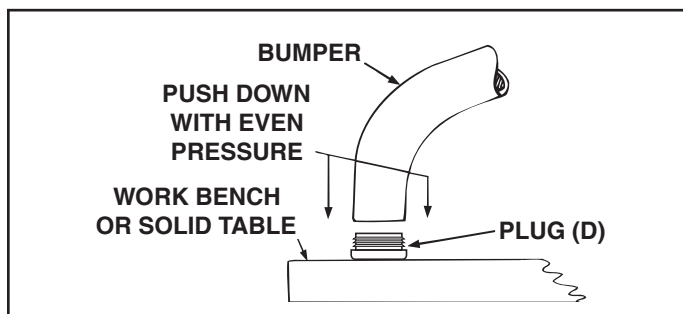

FIGURE 4
STEP 5: (SEE FIGURE 4)
- Place plug (D) on a work bench or solid table and push end of bumper down onto plug. Repeat for all four plugs.